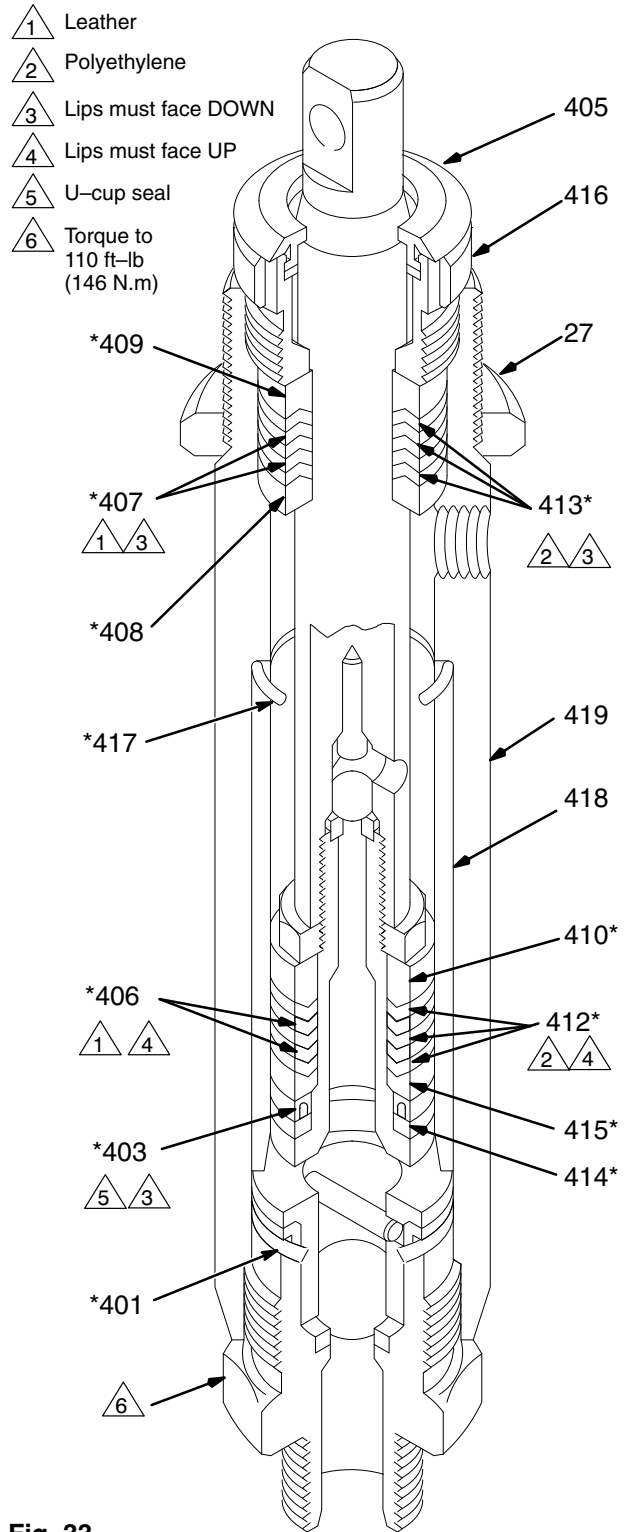

Fig. 33
- To disassemble the rest of the pump, remove the packing nut (416) and plug (405). See Fig. 33.
- Use a plastic mallet to tap the piston rod (424) down. Pull the rod out through the bottom of the cylinder.
- Remove the throat packings. See Fig. 33.
- Put a new o-ring (417*) firmly in the cylinder groove. See Fig. 33.
- One at a time stack the male gland (408*), alternate the packings (413*, 407*), and then install the female gland (409*), into the top of the cylinder (419). See Fig. 33.
- Install the packing nut (416) and plug (405), but leave loose for now. See Fig. 33.
- Screw down the cylinder locknut (27) until it is finger tight at the bottom of the external cylinder threads.
- Put the flats of the intake valve (423) in a vise. Install a new o-ring (401*) and screw the intake valve into the pump cylinder. See Fig. 33. Torque the valve to 110 ft-lb (146 N.m).